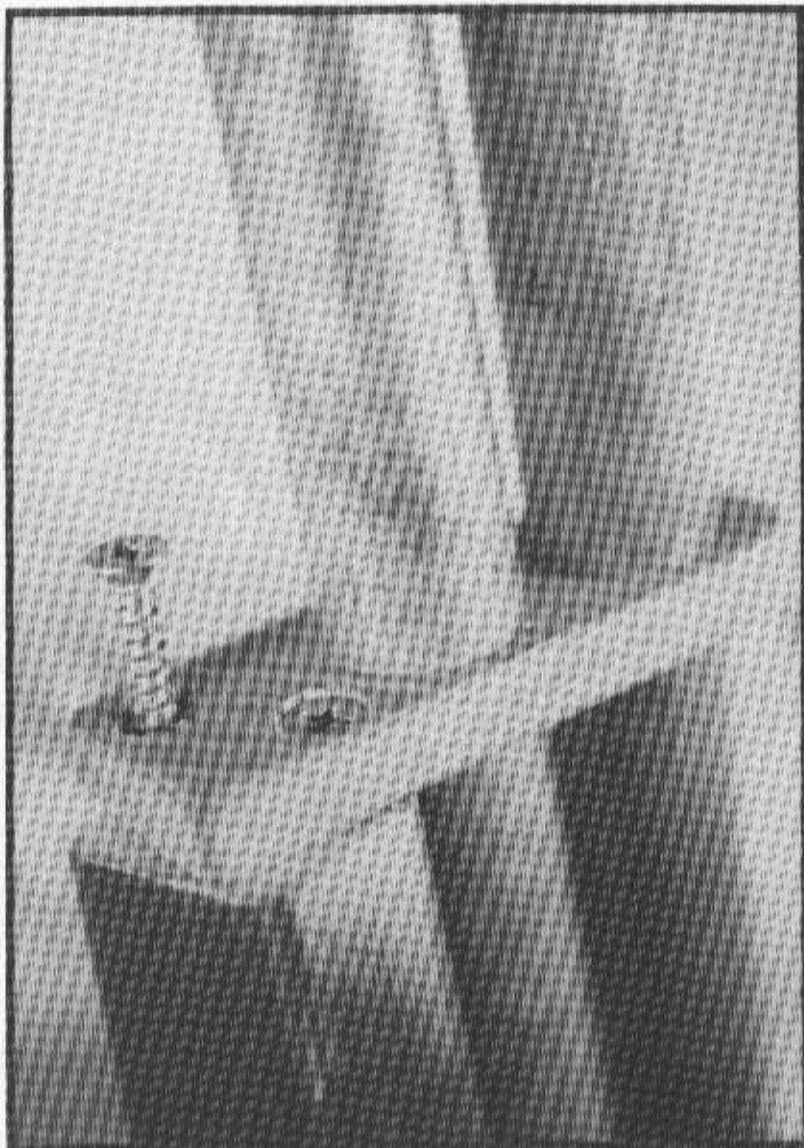

Figure 4-9
13. Insert both barrels through the hardwood and fasten into the end of the foregrip with one screw. That screw acts as a pivot and you can wiggle the barrels back and forth until they are properly aligned (parallel). Then, put in the second screw. See Figure 4-9.